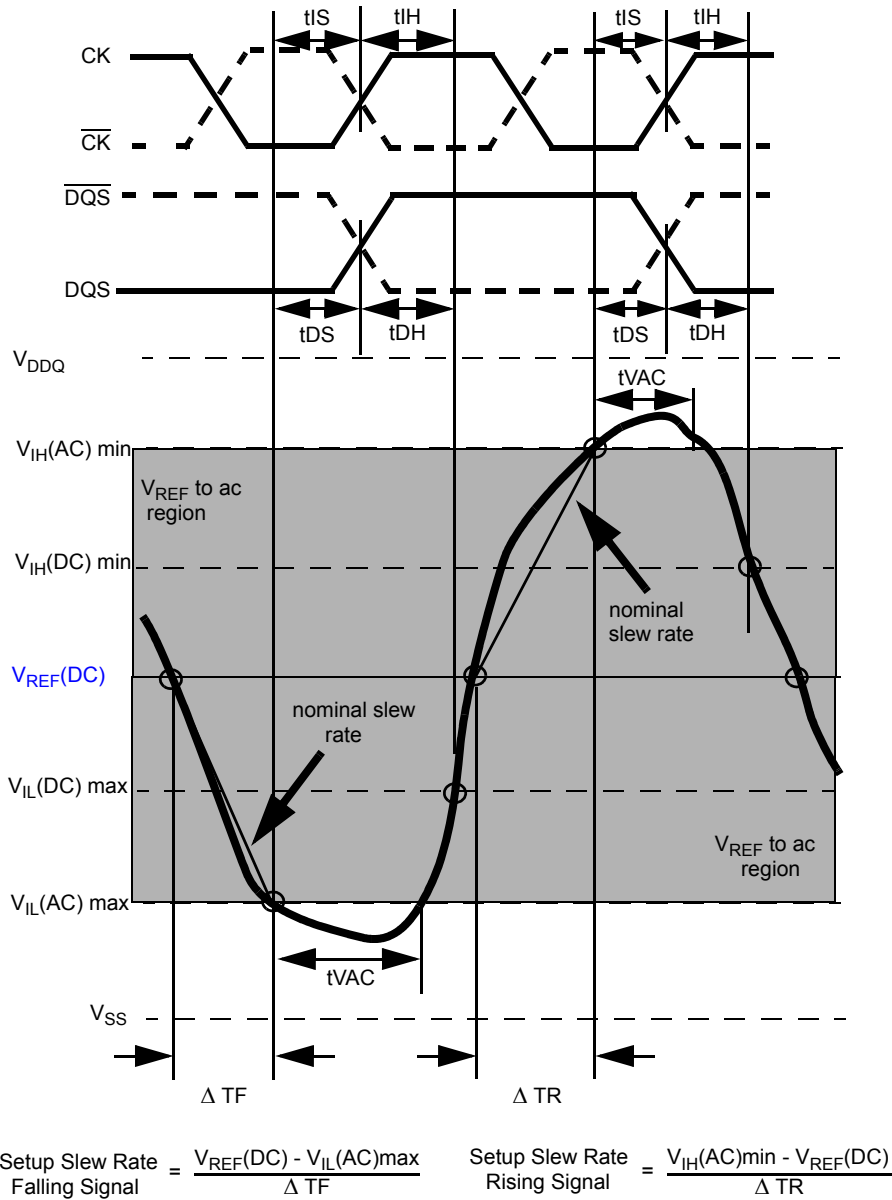
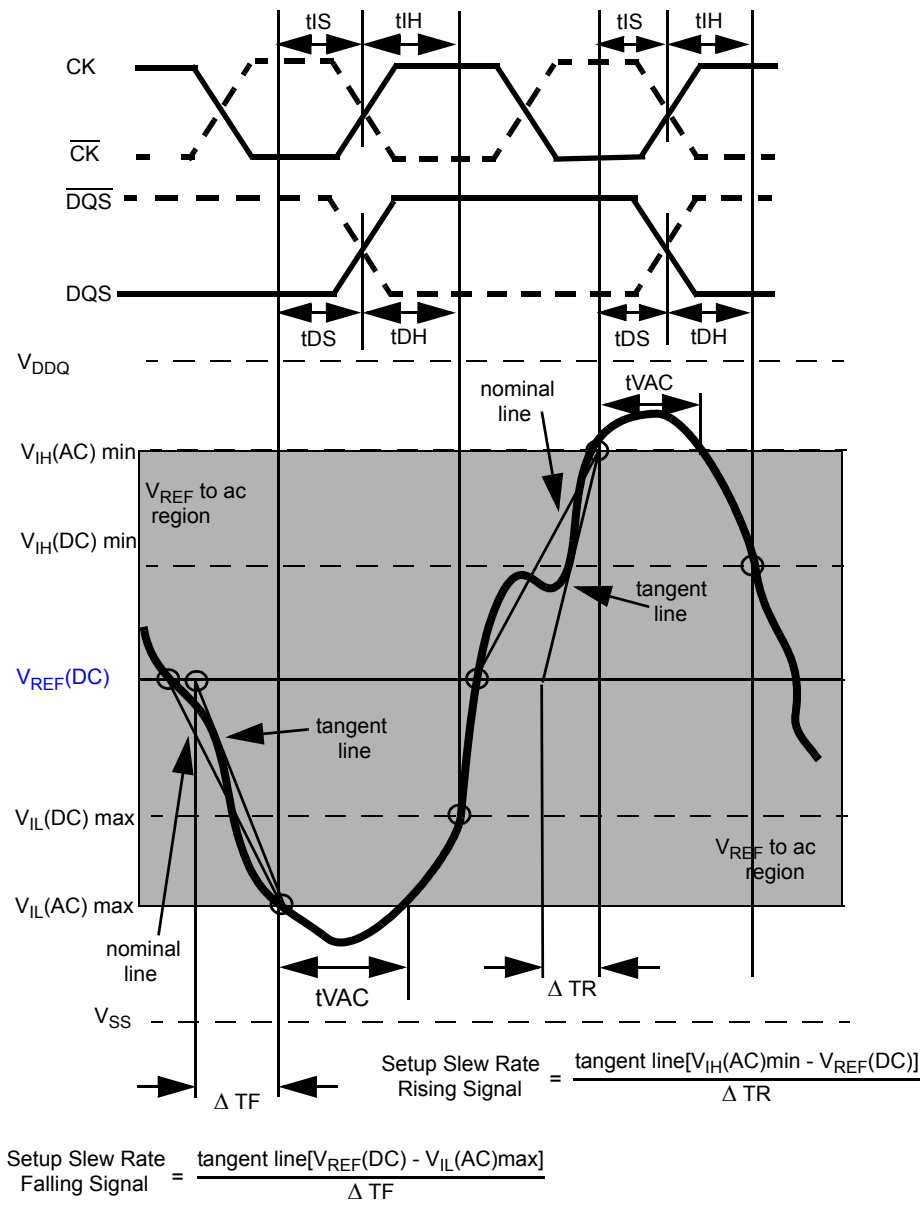

Figure 21. Illustration of nominal slew rate and t_{VAC} for setup time t_{DS} (for DQ with respect to strobe) and t_{IS} (for ADD/CMD with respect to clock).
Figure 23. Illustration of tangent line for setup time t_{DS} (for DQ with respect to strobe) and t_{IS} (for ADD/CMD with respect to clock)
Example: tIS (total setup time) = tIS(base) + ΔtIS Setup (tIS) nominal slew rate for a rising signal is defined as the slew rate between the last crossing of VREF(DC) and the first crossing of VIH(AC)min. Setup (tIS) nominal slew rate for a falling signal is defined as the slew rate between the last crossing of VREF(DC) and the first crossing of VIL(AC)max. If the actual signal is always earlier than the nominal slew rate line between shaded 'VREF(DC) to ac region', use nominal slew rate for derating value (see Figure 21). If the actual signal is later than the nominal slew rate line anywhere between shaded 'VREF(DC) to ac region', the slew rate of a tangent line to the actual signal from the ac level to dc level is used for derating value (see Figure 23).